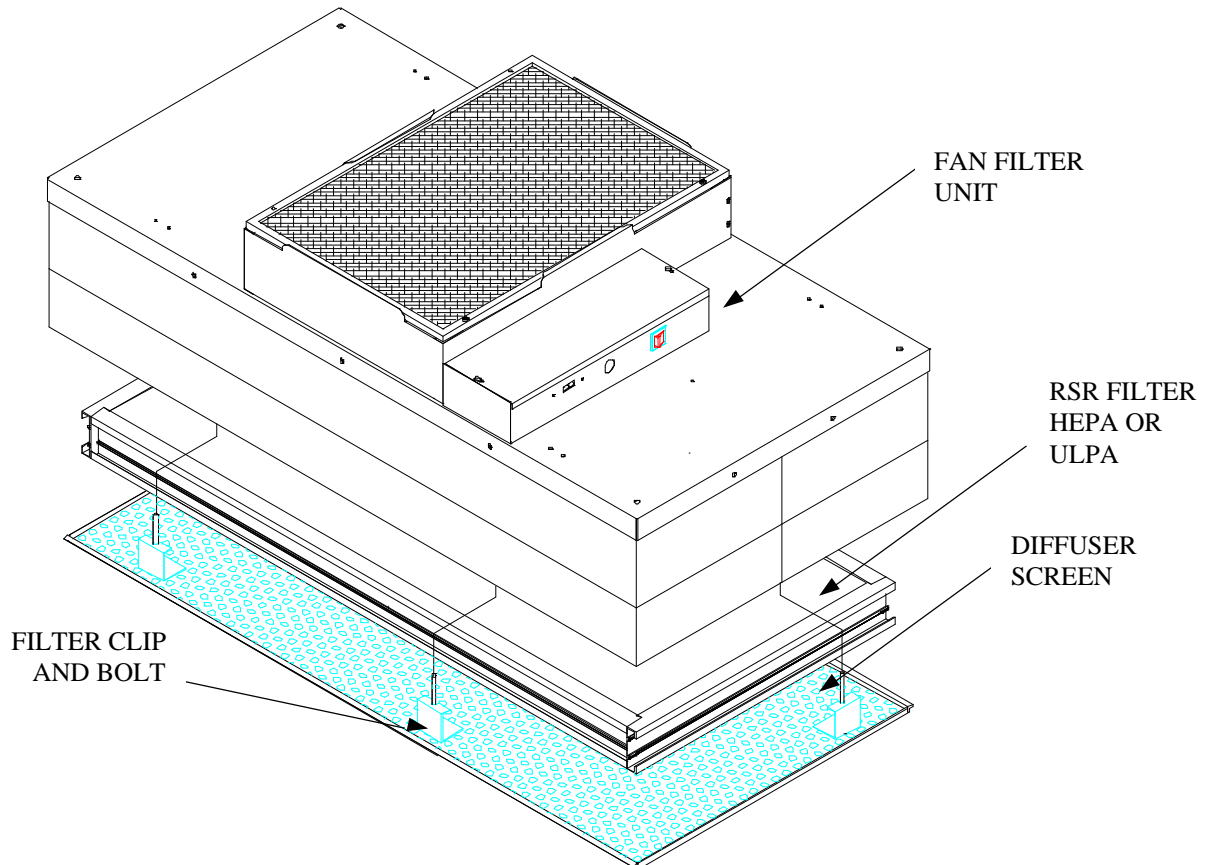

Figure 4
Step 2. While supporting the filter, remove the six screws and clips and lower the filter.(see Figure 4)